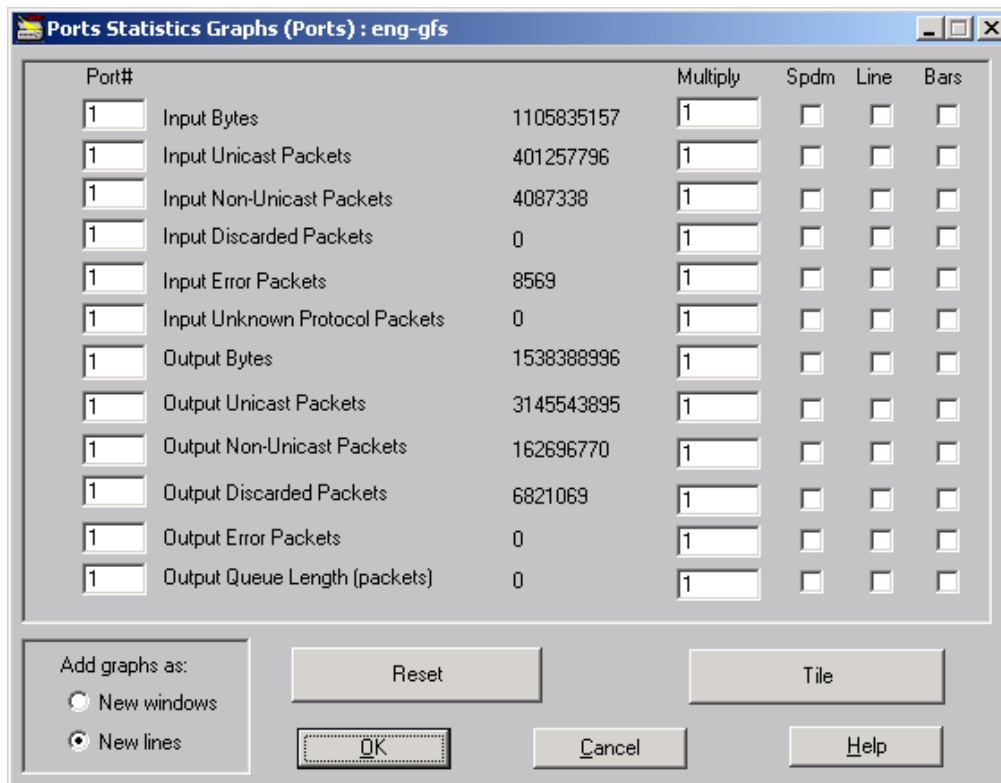

Figure 8. Graphic Support Elements in a typical graph Window
Figure 8 is an example of a window with graph support. Whenever you encounter a window with graphic support elements, counter data can be viewed as a speedometer, line or bars graph.
- different counters for different ports (figure 8, Change the port value);
Options - Opens the Graph Options dialog box. Please, note that these options allow you to reconfigure the Lines graph window parameters and polling interval for the parent window (see figure 8.)
1. **Polling Interval** — Changes the value for the Lines graph main window and its parent (see figure 8.)